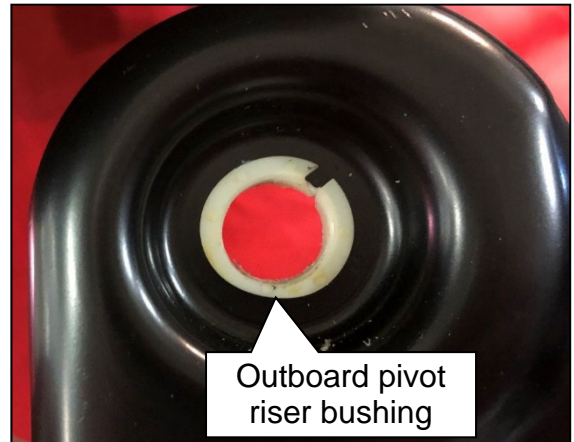

Figure 12
13. With the outboard pivot riser facing up, install the new bushing into the hole with the larger flange facing up (Figure 12).